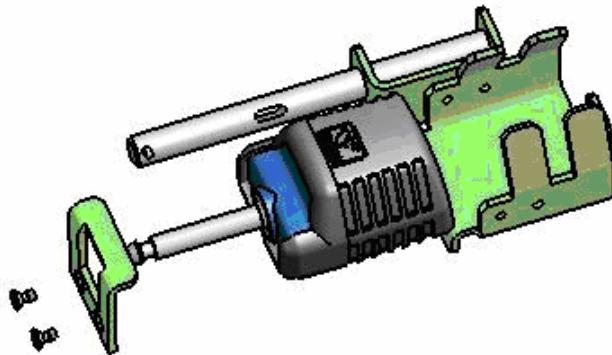

Figure 3-6. Installing the seal inside the housing
3. Install the seal inside the seal-housing, fasten the screws, and secure the screw with appropriate thread locking adhesive (refer to Figure 3-6).